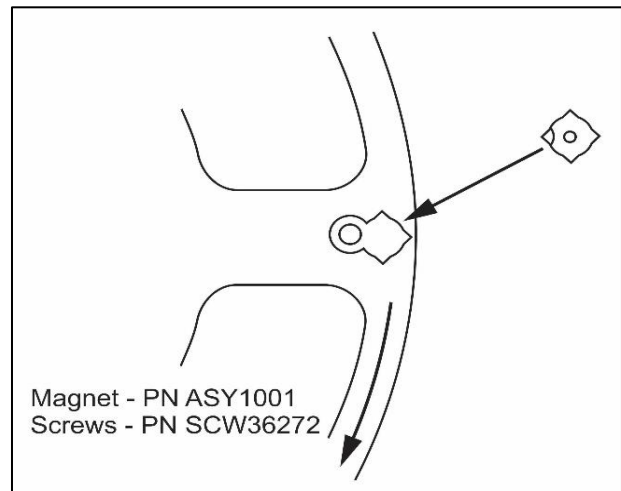

Figure 4: Installing the Magnet
- Install the magnet in the wheel with the hole in the plastic over molding facing out from the engine (**Figure 4 above**). The chamfer on the magnet must be positioned next to the chamfer on the wheel.